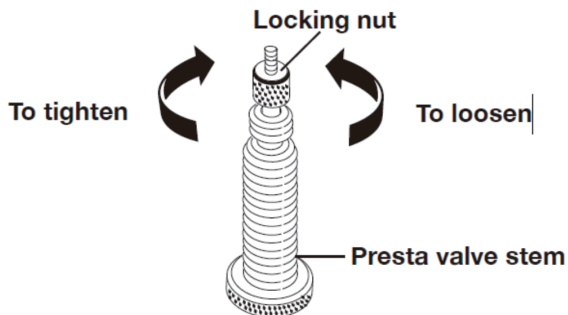

Fig. 8
1. Loosen Presta valve locking nut (Fig. 8).
4. After inflation, remove air chuck and tighten locking nut (Fig. 8).